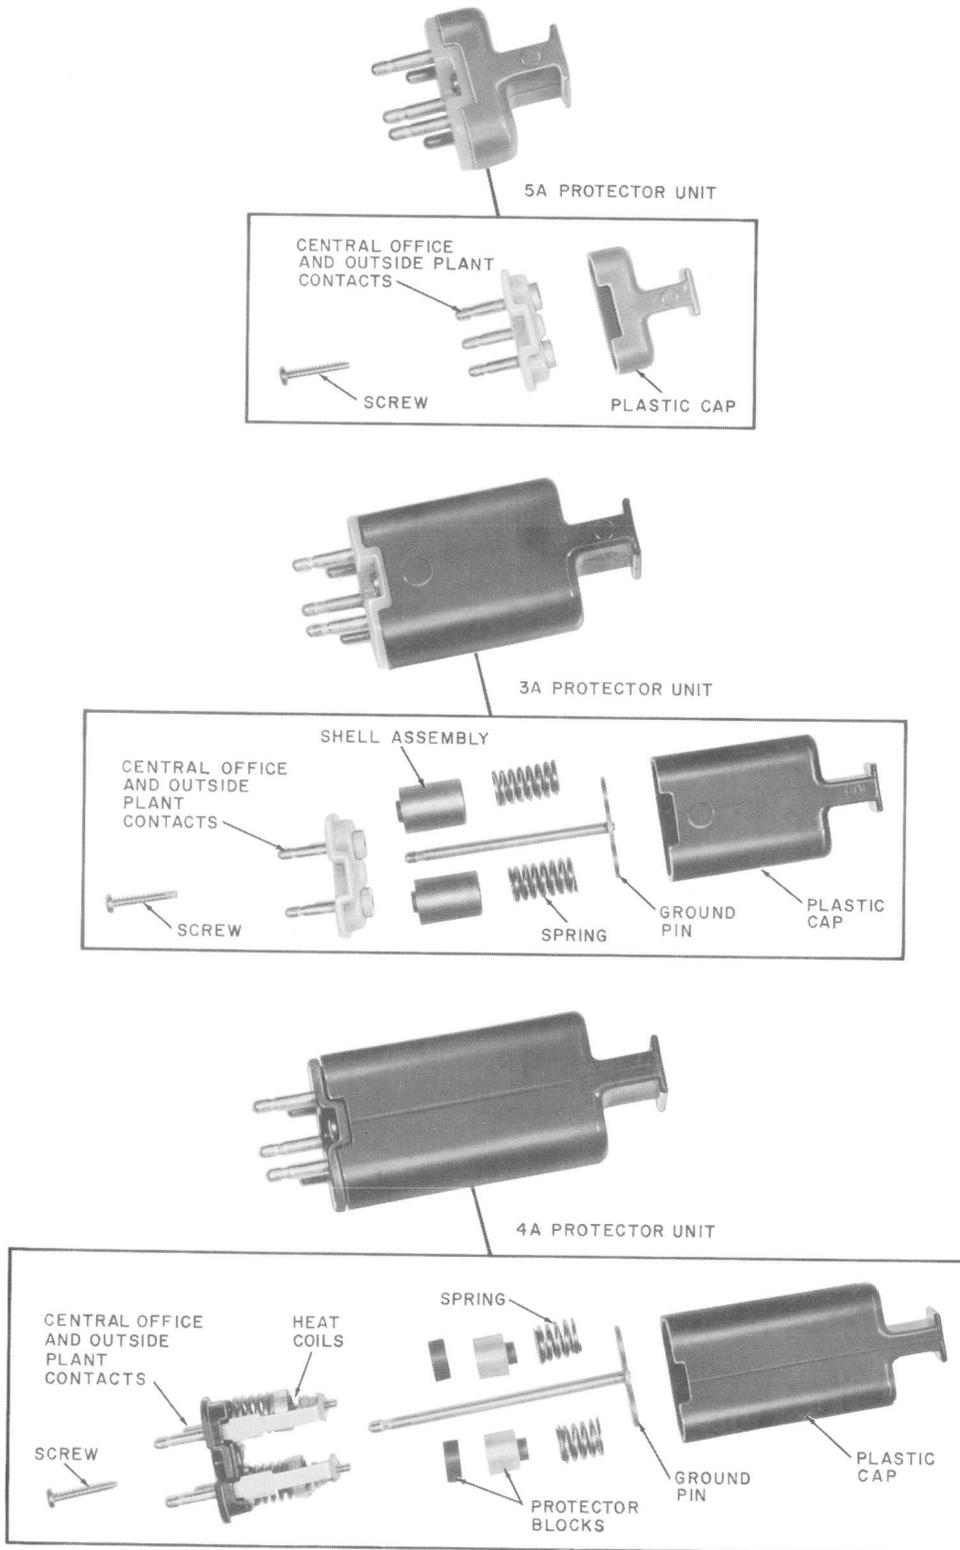
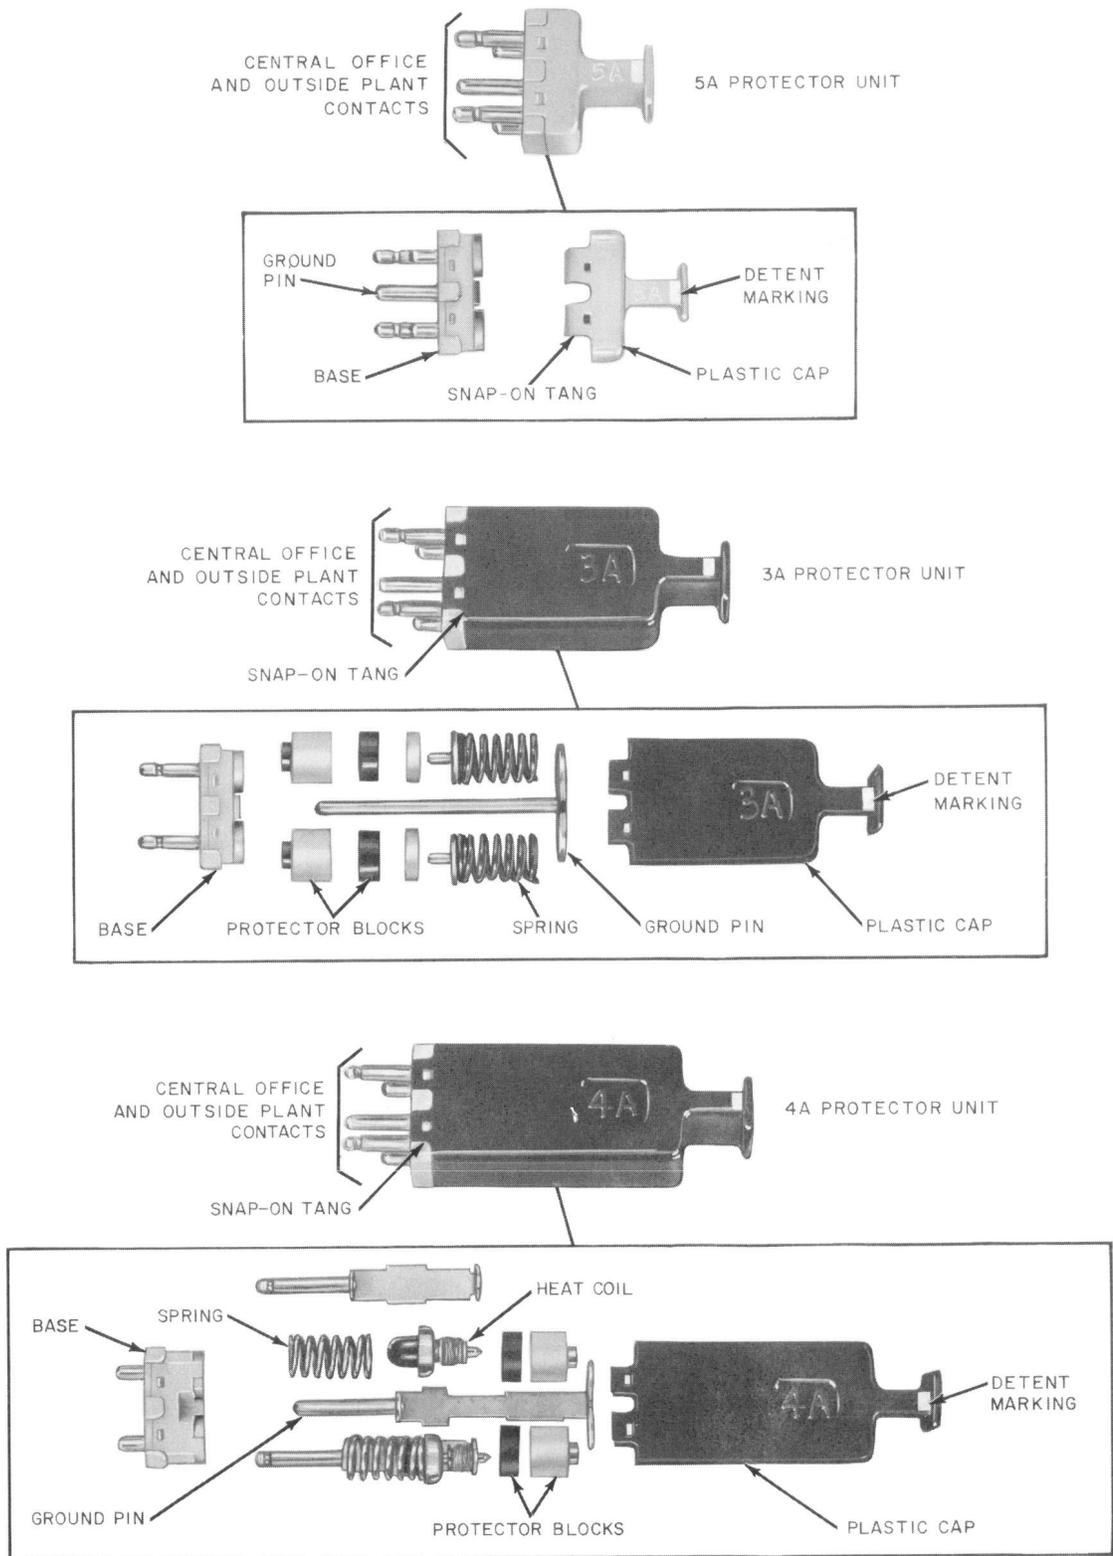

Fig. 6—Protector Units for 302-Type Connector
Fig. 7—Protector Units for 303-Type Connector
3.41 Reassemble protector components per Fig. 6, and Fig. 7 using 760B tool to hold unit in place. When components are in place, replace protector shell. On the protector unit for 302-type connectors replace retaining screw. On the protector unit for 303-type connectors press down shell lightly. Place thumb and forefinger into recesses on 760B tool. Grasp base of protector unit. Raise base into shell until retaining tabs on shell engage base. Remove protector unit from 760B tool assembly.